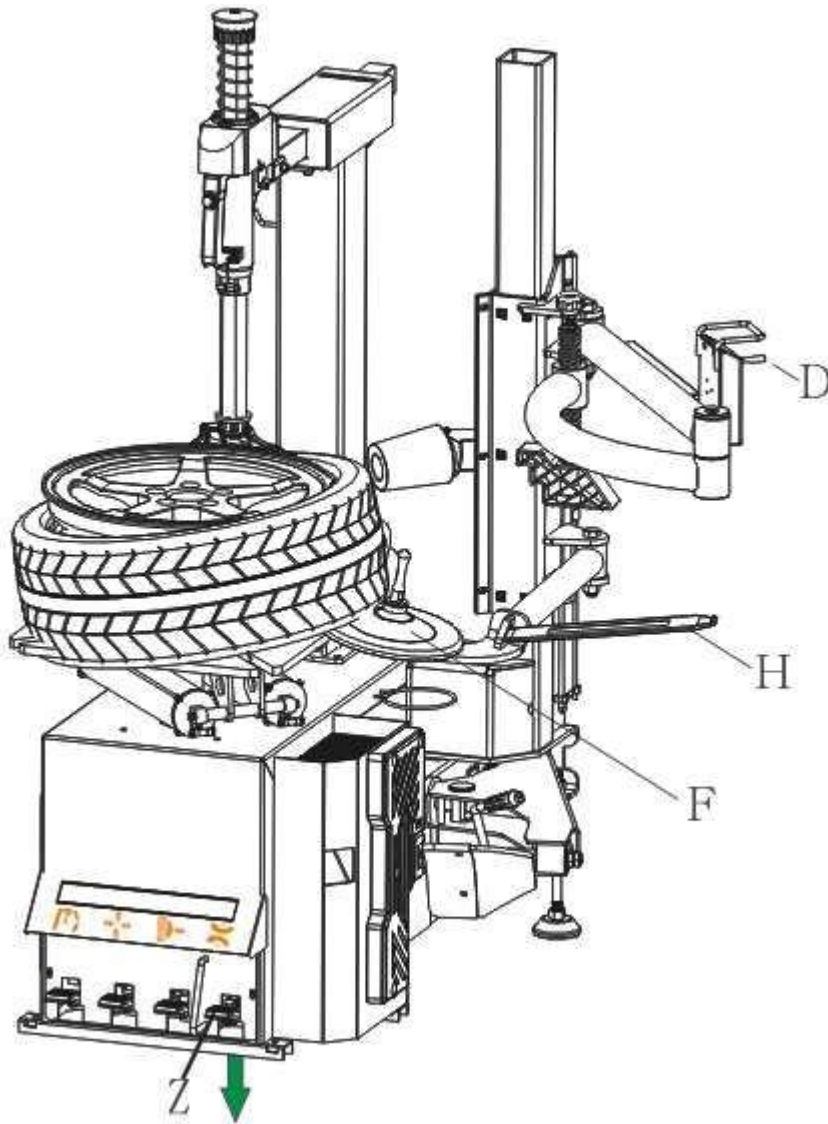

Fig. 12
- Turn the arm and move the tray F hold the tyre from bottom, do not touch the Rim(Fig. 12).
- Make sure the the tray hold the tyre firmly, use the crowbar H to assist if necessary, press the pedal Z and turn the working plate, raise the arm with switch D until the under tyre bead apart from the rim.(Fig. 12)